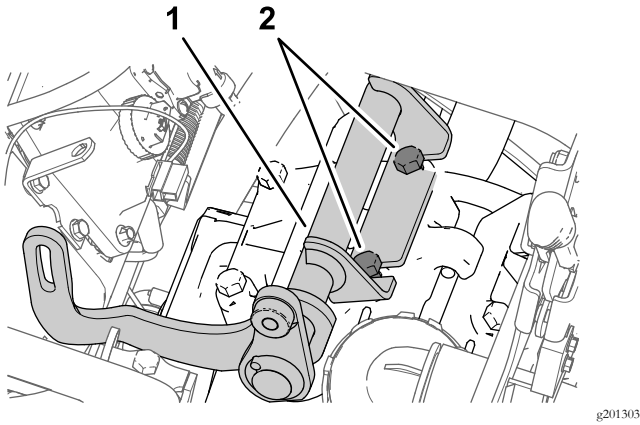

Figure 177
- Align the alternator bracket between the bolts that you loosened and as shown in step 1 and the pump head Figure 177.